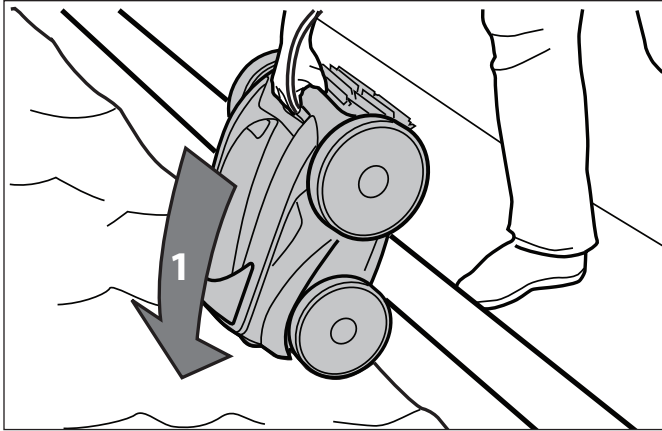

Figure 13. Submerge the Cleaner Vertically
1. Submerge the cleaner in the pool and remove any air trapped inside by keeping the unit vertical. Refer to Figure 13.